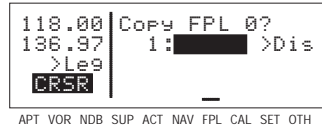

Figure 4-24
2. Turn on the cursor (**CRSR**). It will appear over the blank first waypoint position (figure 4-24).